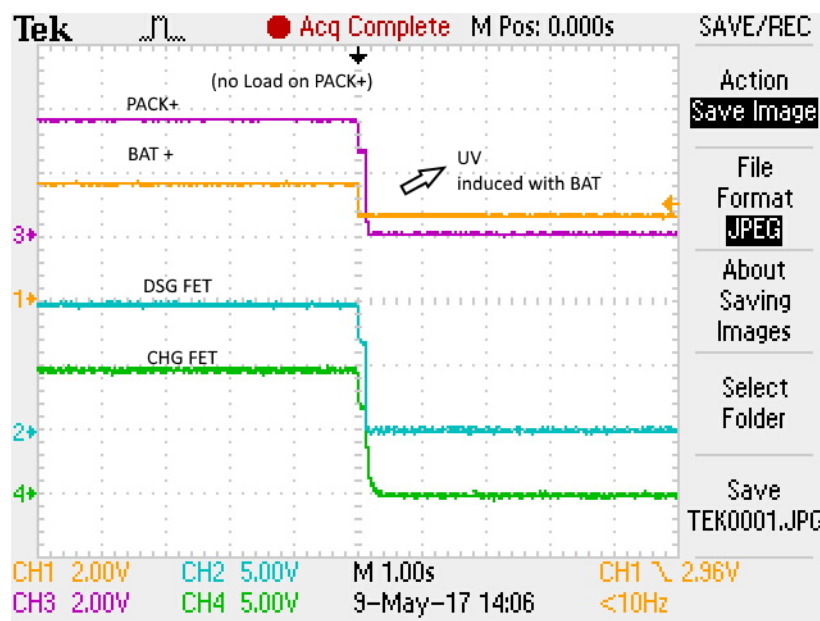

Figure 2. bq2980EVM-PWR883 Demonstration of Undervoltage
5. Set power supply #2 to 4.0 V with the ability sink or source 100 mA–200 mA, enable the supply and disable supply. Observe bq2980 to transition from SHUTDOWN to NORMAL mode. The bq2980 device can also enter NORMAL mode, if the VDD pin is SHORTED to the PACK pin. Also note in NORMAL mode, both drivers (charge and discharge FETs are ON) are to be operating at greater than 9.5 V, as detailed in Figure 2.
3. Refer to the EVM883 scope capture in Figure 2.